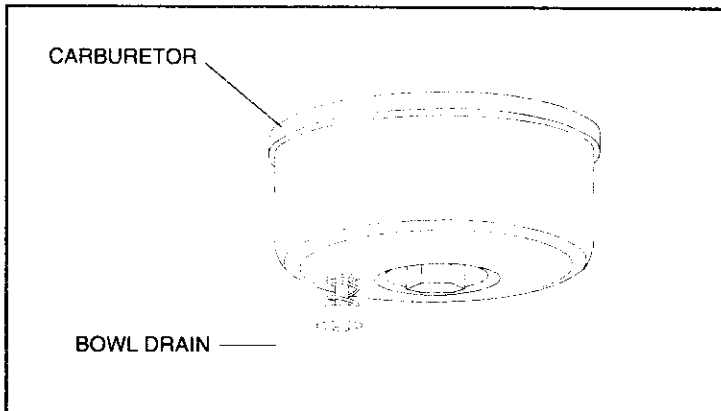

Figure 7
### ① CARBURETOR (see Figure 7):